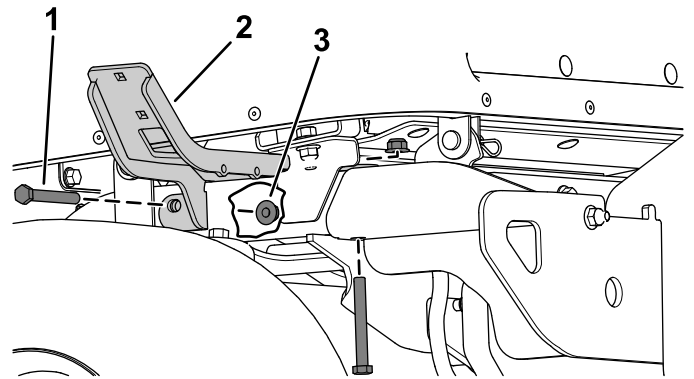

Figure 23
2. Secure the left mount and right mount to rear frame tubes using 2 hex-head bolts (3/8 x 3 inches) and 2 locknuts (3/8 inch) on each side (Figure 23).